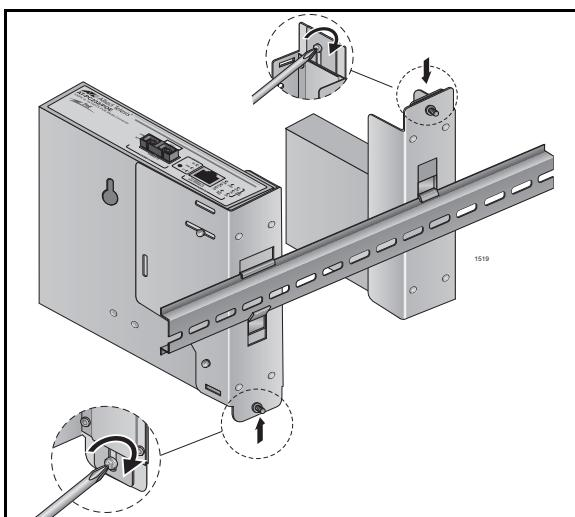

Figure 6 - Mounting the Bracket on the DINRAIL
5. Install the mounting bracket on the DINRAIL. As shown in Figure 6, "Mounting the Bracket on the DINRAIL", the bracket may be oriented either with the bracket screw above or below the DINRAIL.. Slide the hook towards the DINRAIL until it is snug and then tighten the bracket screw.